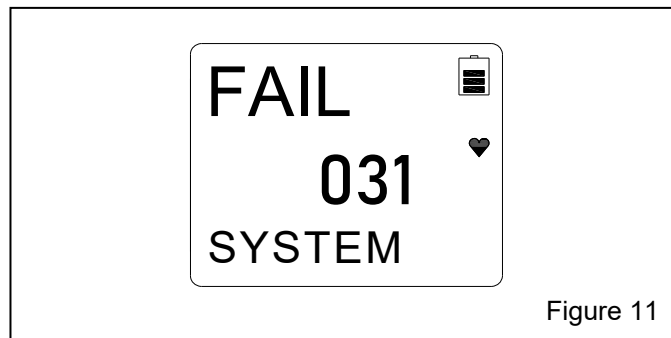

Figure 11
**3.4.6.1** If a system failure occurs, the system failure screen will display an error code similar to that shown in Figure 11.
**3.4.6.2** If the System Failure error code is anything but 031, as shown in Figure 11, the instrument cannot be used. Contact Clemco Industries as soon as possible. If the error code is 031, press and release POWER/MODE to continue into Measuring Mode if the instrument must be used temporarily.